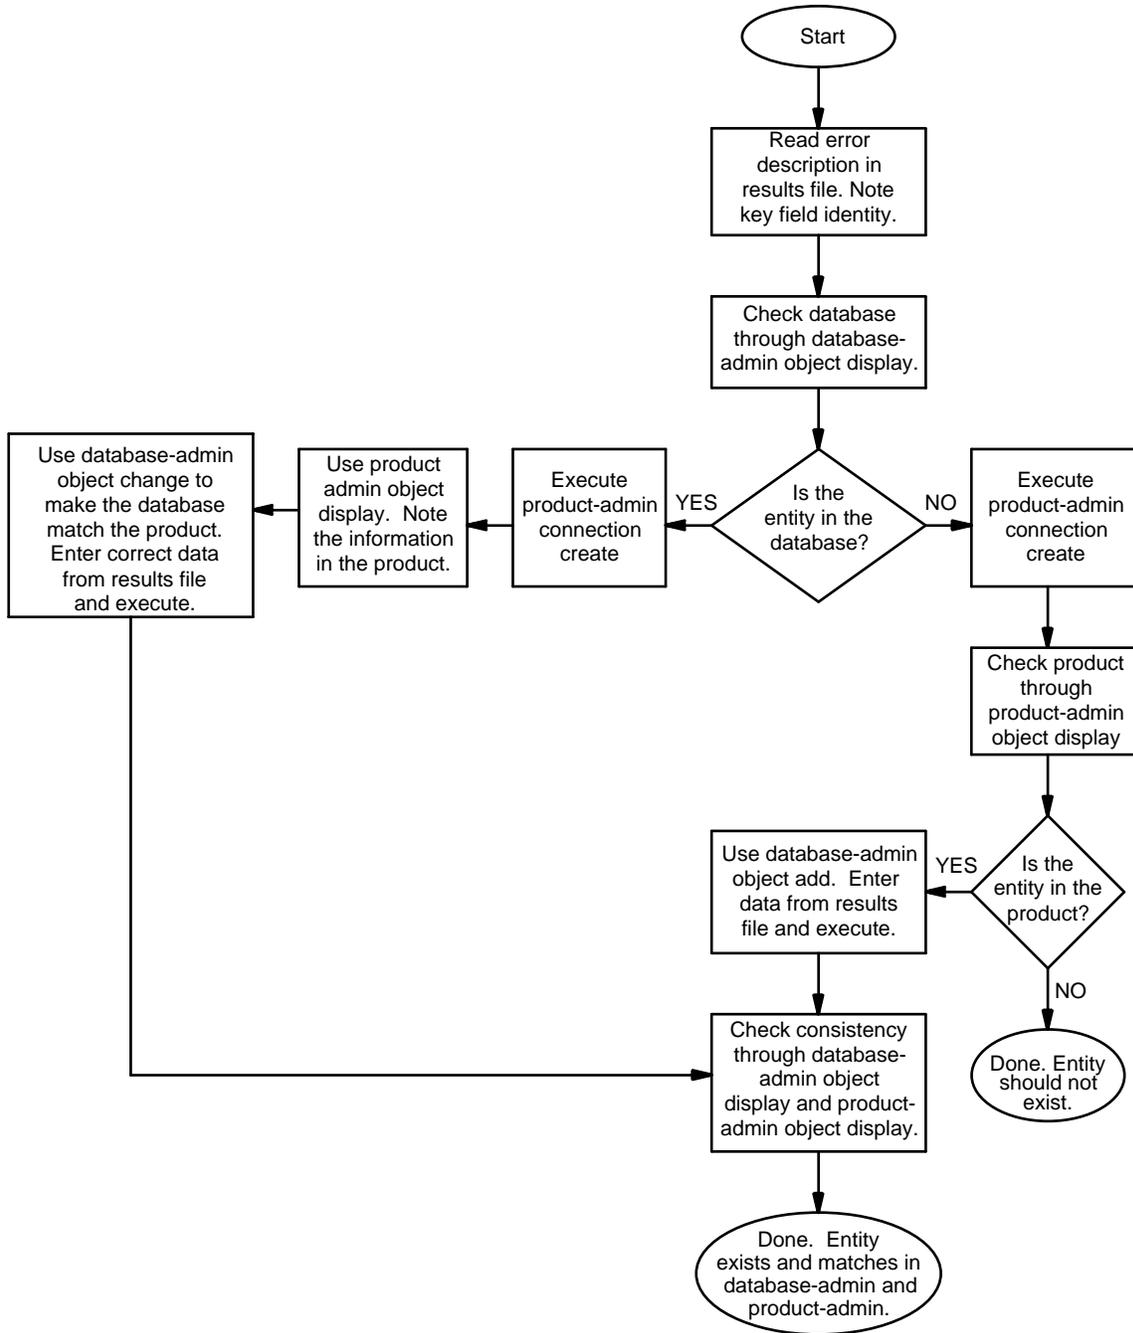

Figure 8-4. Correcting Minor Errors
- Figure 8-4 provides a general error correction strategy for correcting minor errors.